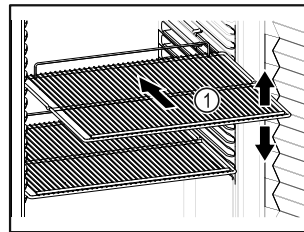

Fig. 82 Example illustration
- If there are adjustable shelves Fig. 82 (1), position them as required.